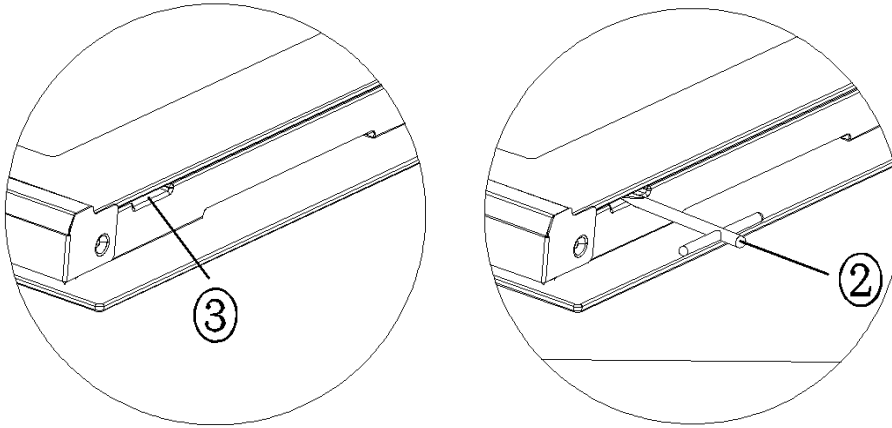

Figure 2
① : Inside glass
② : Pointed tool (To insert into disassembly groove)
③ : disassembly groove
1. To insert ② pointed tool into the disassembly groove, as shown in figure 2